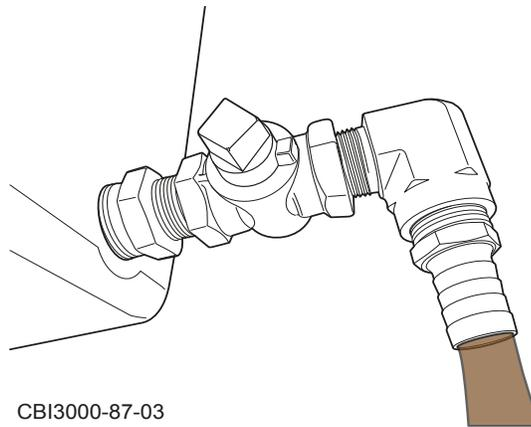

Figure 6.32 - Drain Engine Oil
5. Drain Oil - Allow enough time for the old oil to completely drain from the engine (Figure 6.32).